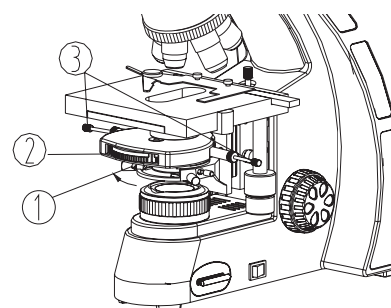
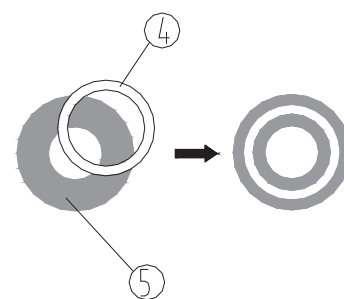

Figure 7.
Figure 8.
- d. Rotate the phase contrast ring to "BF," indicating brightfield microscopy. As the ring is rotated, it will stop in designated spots indicating that one diaphragm is rotated into the center of the optical path (see Figure 8).
- e. Centering the halo. Slide the aperture diaphragm lever ① all the way to the left to completely open the aperture diaphragm (see Figure 7). Place the specimen on the stage and focus. Remove one eyepiece and insert the centering eyepiece into the tube. Confirm the corresponding phase ring (in phase contrast objective) and halo (in phase contrast disc ②) are moved into the optical path. Adjust the centering eyepiece to bring the phase ring and halo in the field of view (see Figure 8). Using the adjusting levers ③ (see Figure 7) on the phase contrast condenser, bring the halo ④ center and the phase ring center ⑤ together to make a bullseye (see Figure 8). The halo and phase ring center must be adjusted for each objective used. Centering is critical to achieving phase contrast observation.